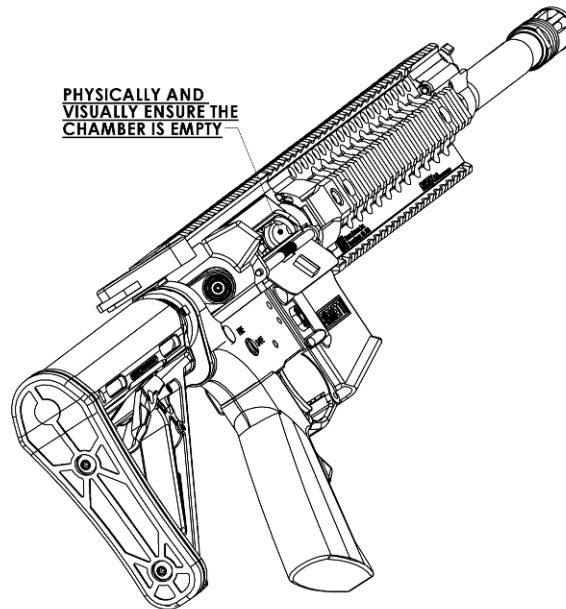

Figure 16
4. Visually and physically inspect the chamber to ensure that it is empty. (Figure 16).